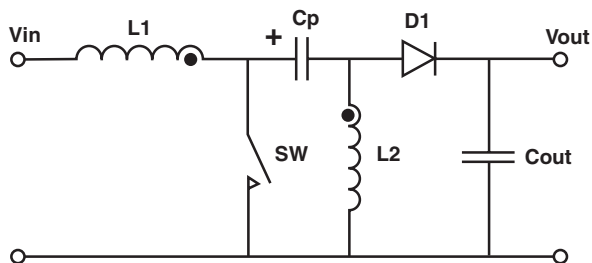

Figure 1 - Simple SEPIC Circuit
Figure 1 shows the simple circuit diagram for a SEPIC, during the switch (SW) ON time the voltage across both inductors is equal to V_{in} . This is obvious for L1, however it is not so clear for L2. In order to understand this we first need to look at the voltage across C_p , neglecting ripple voltage, this voltage is constantly at the value of V_{in} . The simplest way to see this is when the circuit is at equilibrium, under these conditions there is no DC voltage across L1 or L2, so one side of the capacitor is at V_{in} and the other at zero volts.